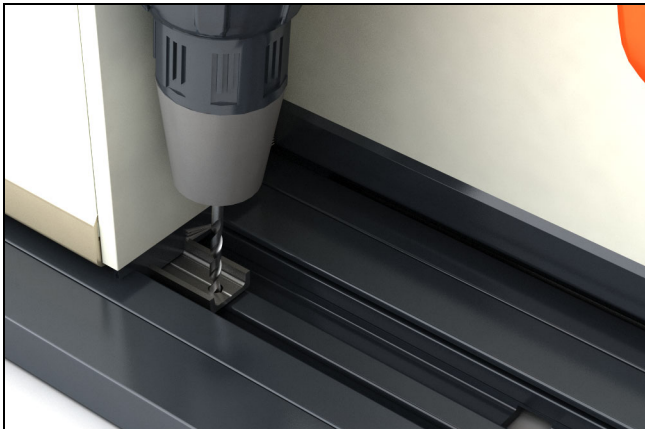

Figure 140
- Pre-drill the sill using bracket as a guide and 1/8" (3) drill bit. **Do not puncture pan.** Fasten using #8 x 3/8" pan head screws. See figure 140.